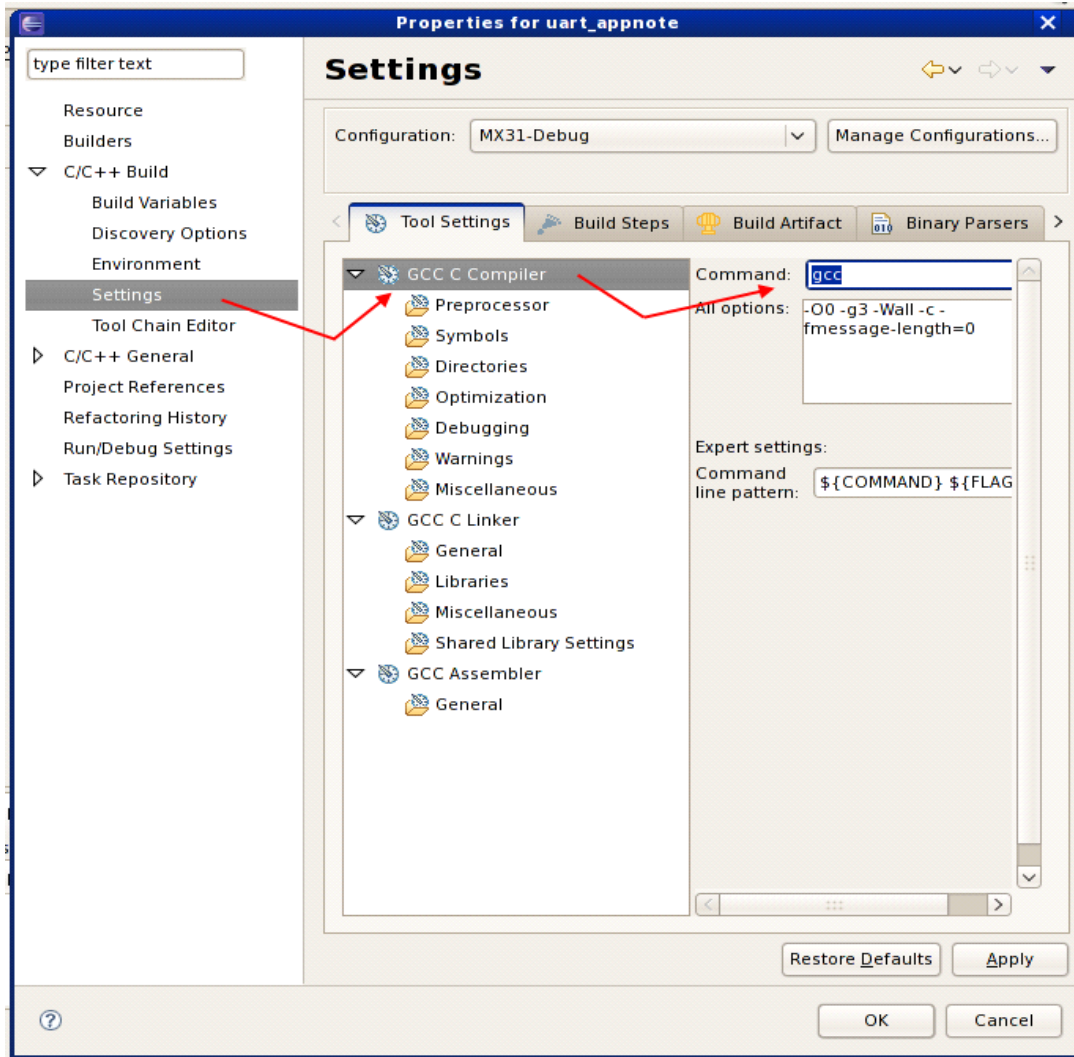

Figure 4. Replacing the gcc Command
10. Expand the C/C++ Build options and click Settings. On the Tool Settings tab, which is located on the right side of the pane, change the GCC C Compiler command from `gcc` to `/opt/freescale/usr/local/gcc-4.1.2-glibc-2.5-npt1-3/arm-none-linux-gnueabi/bin/arm-none-linux-gnueabi-gcc` as shown in Figure 4.